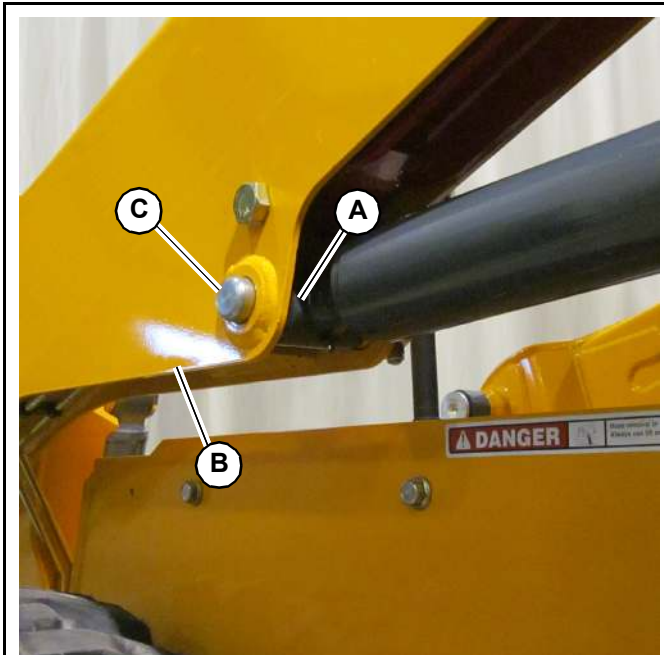

Fig. 210 – Rod End Pivot Pin
2. Using an appropriate lifting device, position lift cylinder rod end (A, Fig. 210) to lift arm (B) and install pivot pin (C).